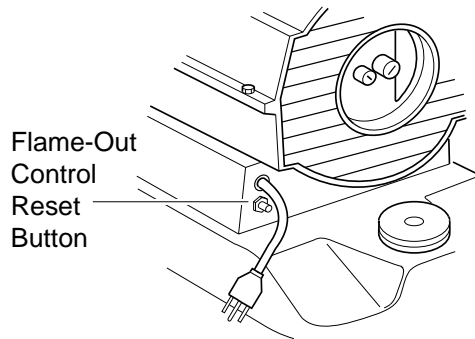

Figure 6 - Flame-Out Control Reset Button, 35 Model
5. Plug extension cord into standard 120 volt/60 hertz, 3-prong grounded outlet. Heater will start when extension cord is plugged into outlet. If not, push in heater's flame-out control reset button (see Figures 6 and 7).